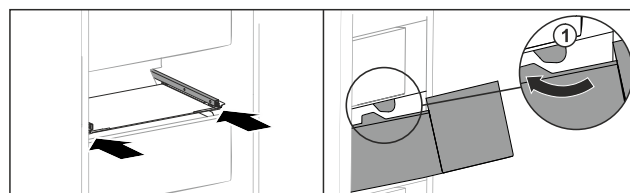

Fig. 147
- Guide drawer around the stoppers Fig. 147 (1).